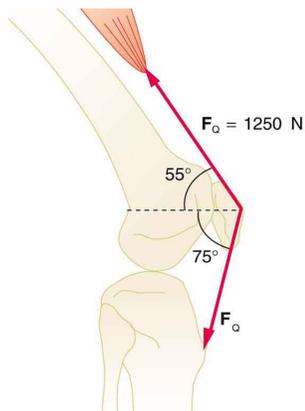

Figure 9.38 The knee joint works like a hinge to bend and straighten the lower leg. It permits a person to sit, stand, and pivot.
47. The upper leg muscle (quadriceps) exerts a force of 1250 N, which is carried by a tendon over the kneecap (the patella) at the angles shown in **Figure 9.38**. Find the direction and magnitude of the force exerted by the kneecap on the upper leg bone (the femur).